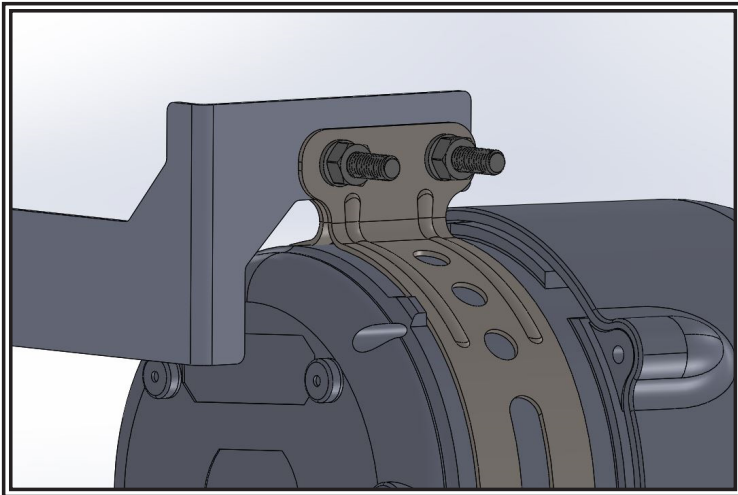

Figure 4
2. Mount speaker onto bracket. See Figure 4.